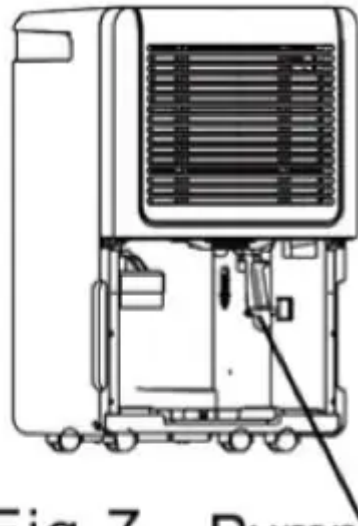

Fig.7 Pump filter
- If the pump filter drops when you remove the bucket (see Fig.7), you must reinstall the pump filter properly to the unit before replacing the drain bucket into the unit (see Fig.8).